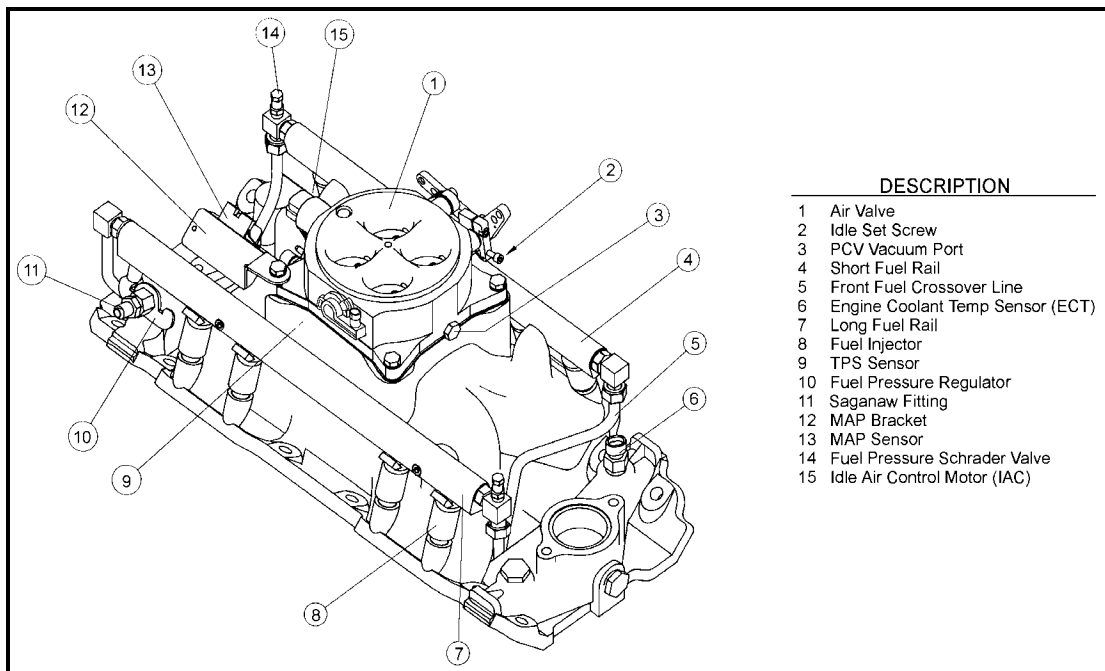

Figure 1
- Install the schrader valve to the front of the fuel rail if not already installed. Use Teflon tape or liquid Teflon sealer. **See Figure 1.** If you are going to use a fuel pressure gauge or transducer, you may wish to install it in this port.
- Next install the throttle body. The throttle body is in a separate box in the kit, which contains the gaskets needed. First install the gasket that matches the manifold base. Next install the steel plate included with the throttle body. Next install the gasket that matches the plate. Install the throttle body with the 4 5/16-18 bolts and washers included. The MAP sensor bracket is attached by the rear, passenger side bolt. Install the MAP sensor first with the two 10-32 x 1" screws and #10 washers. **See Figure 1.** The throttle cable bracket is attached with the rear driver's side bolt. The bracket in the kit works with most throttle cables and transmission cables.